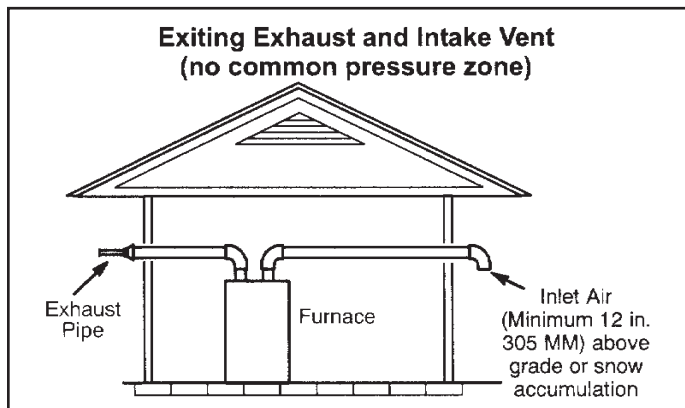
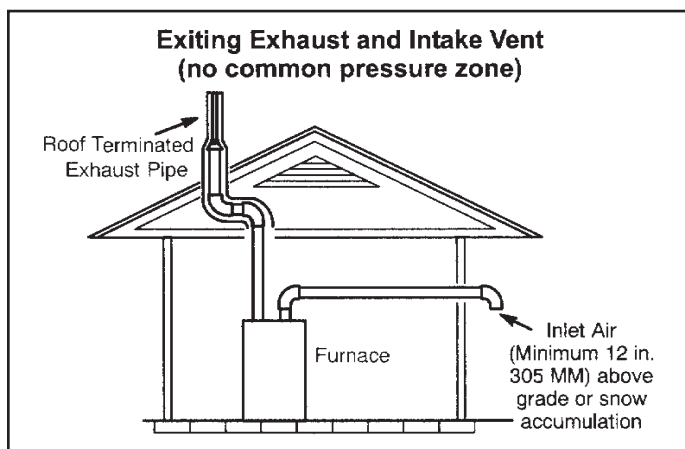

Figure 37.
Figure 38.
- Intake and exhaust terminations are not required to be in the same pressure zone. You may exit the intake on one side of the structure and the exhaust on another side (Figure 37). You may exit the exhaust out the roof and the intake out the side of the structure (Figure 38).